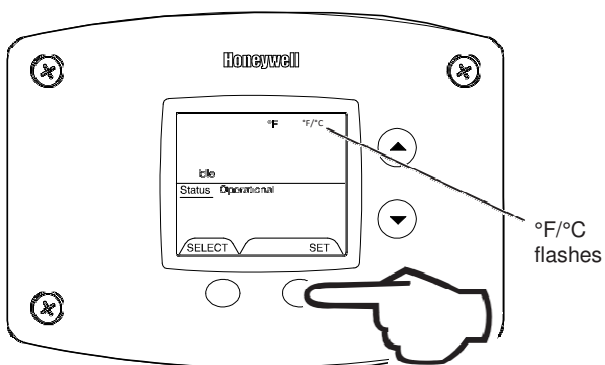

Fig. 20
3. Change temperature format from °F to °C by following the steps in Fig. 20 on page 28.
2. Press 'SET' button to change temperature format. Symbol °F/ °C will flash (Fig. 20).